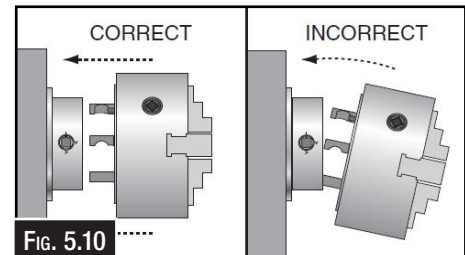

FIG. 5.10
**NOTE: Avoid inserting the studs in from an angle or rotating the spindle. This can damage the studs or the cam holes. (Fig. 5.10)**